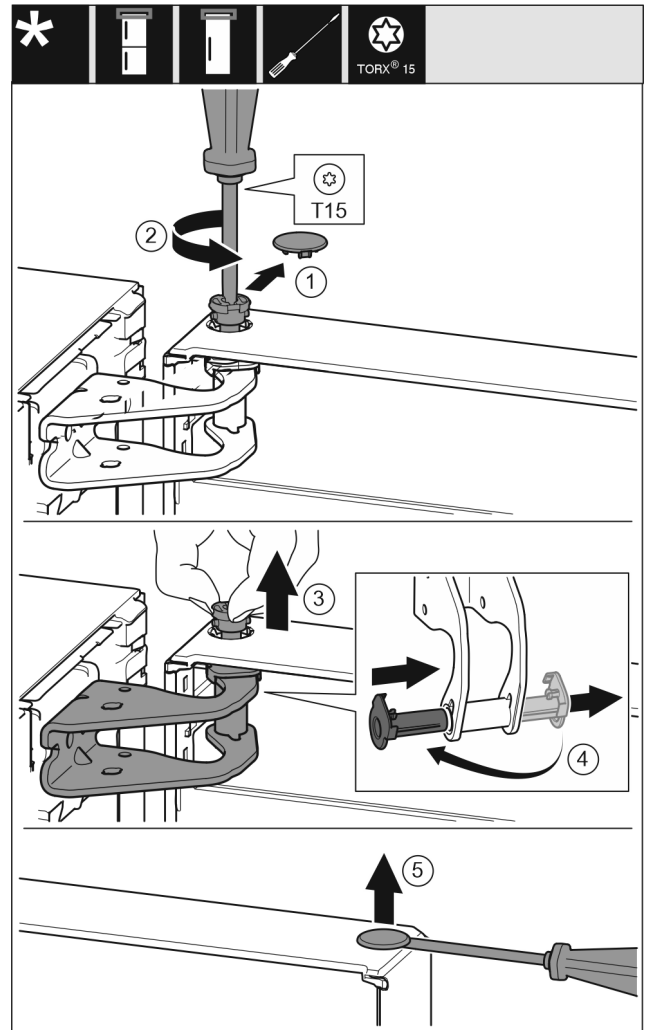

Fig. 6
- ▶ Carefully remove the protective cover. Fig. 6 (1)
- ▶ Undo the bolt a little with a T15 screwdriver. Fig. 6 (2)
- ▶ Hold the door and remove the bolts with your fingers. Fig. 6 (3)
- ▶ Pull the bearing bush out of the guide. Insert from the other side and latch into place. Fig. 6 (4)
- ▶ Carefully lift the plugs out of the door bearing bush with a slotted screwdriver and pull them out. Fig. 6 (5)